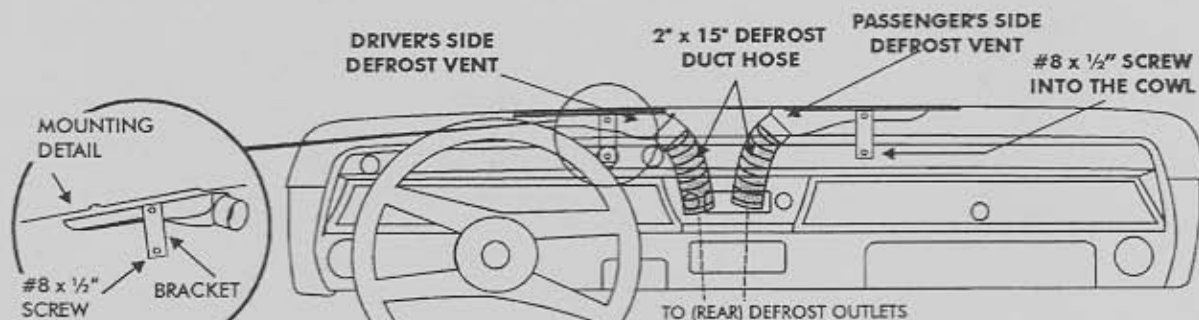

FIGURE 8
- LOCATE THE TWO (SUPPLIED) DEFROST VENTS. CENTER THE DEFROST VENTS UNDER THE DEFROST OUTLET GRILLE OF THE DASH, MARK AND DRILL OUT HOLES WITH A 1/8" DRILL BIT AND ATTACH DEFROST VENTS WITH ONE #8 x 1/2" SCREW (SEE FIGURES 8 & 9) INTO THE COWL.